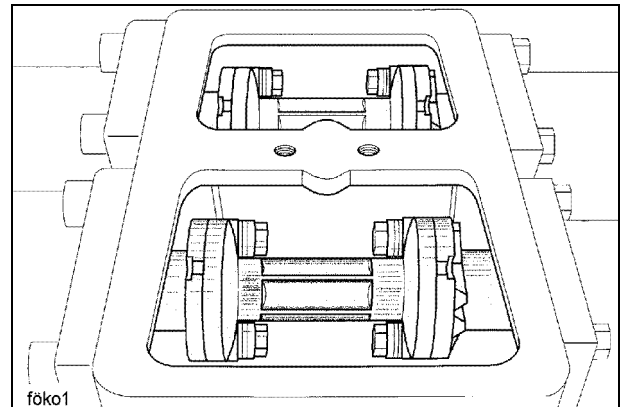

Fig. 1
- Bring piston until just before the rear final position. The distance piece (Fig. 1) must be fully visible in the water box.